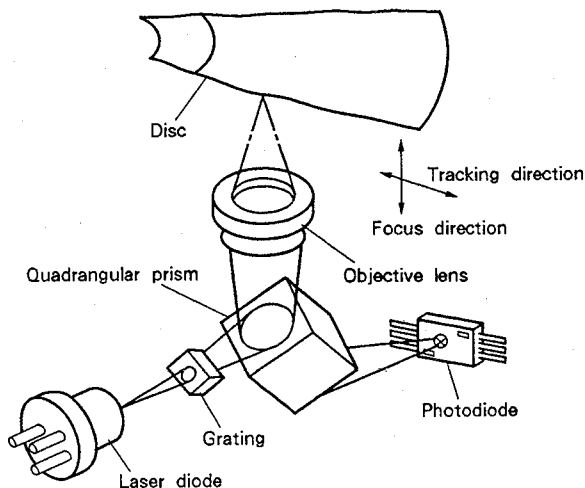

Fig. 9-1 Optical path and parts
Fig. 9-1 shows the configuration of this pickup's optical parts.
(3) Simple optical path mad possible by the newly-developed quadrangular prism (Fig. 9-1)